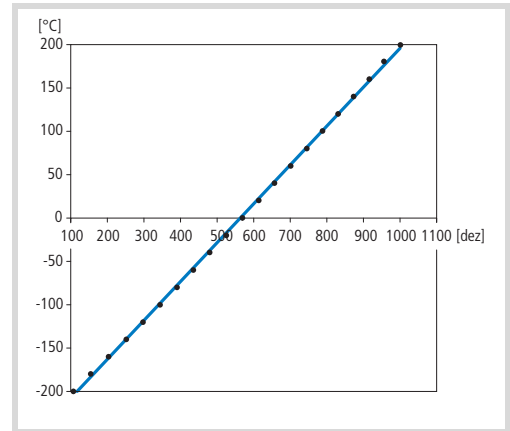

Figure 22: Pt100 calibration curve for XC121 (Simulator: burster precision RTD Simulator 4530)
1) Assigned temperature values → fig. 22